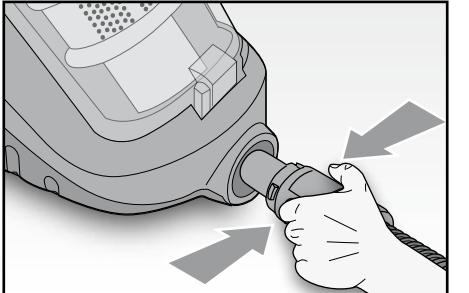

Fig. 2
- Insert the suction device coupling (M) into the air inlet opening (G) and press until it clicks into place. To remove it, it is necessary to press the two release buttons (Q) at the same time and to pull it out (Fig. 2).